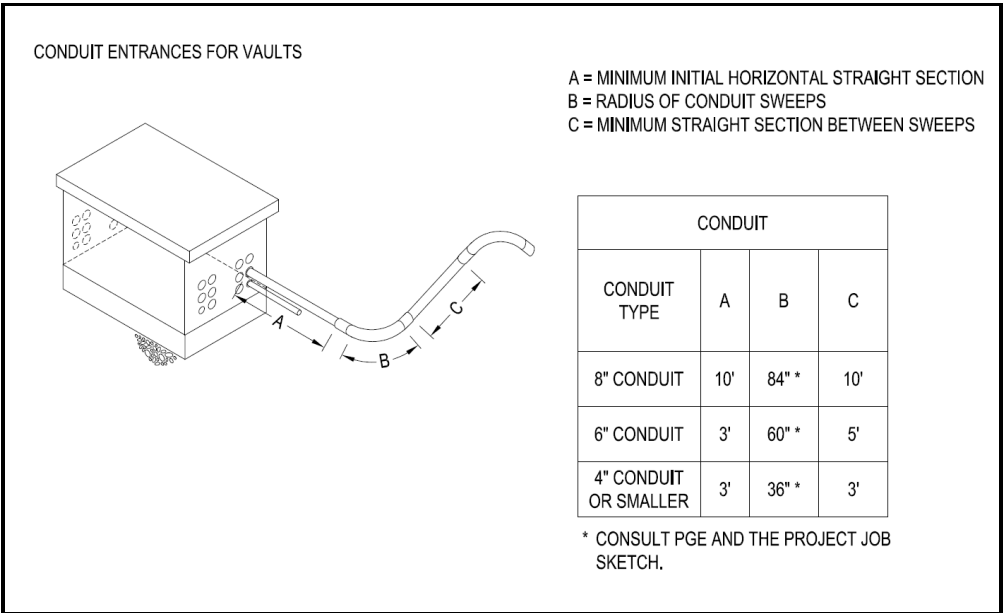

Figure 5: Conduit Entrances for Vaults (STD-D-3311)
- All primary cables in 8-inch duct must have fiberglass or rigid steel conduit sweeps. All conduit 6-inches and smaller require fiberglass or rigid steel conduits if the run is greater than 150 feet or if the total degrees of sweeps in the run exceeds 180 degrees. See Figure 5 for conduit sweep radii.